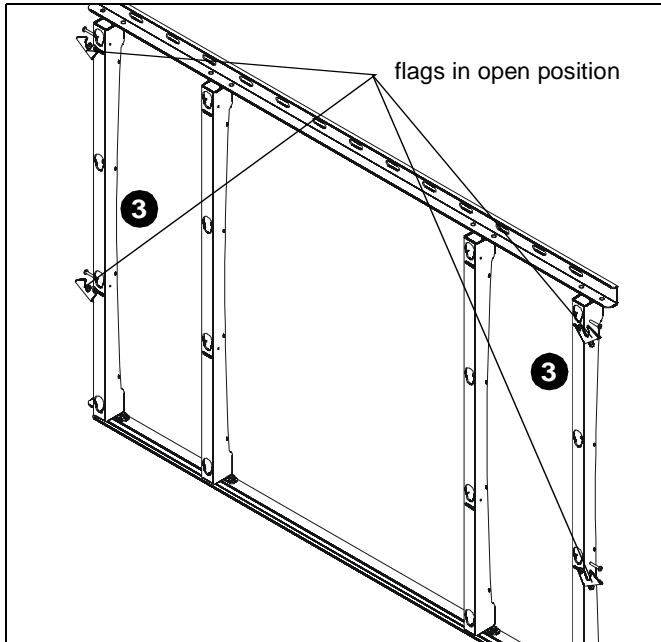

Figure 7
3. Make sure locking flags on mount are in open position. (See Figure 7)